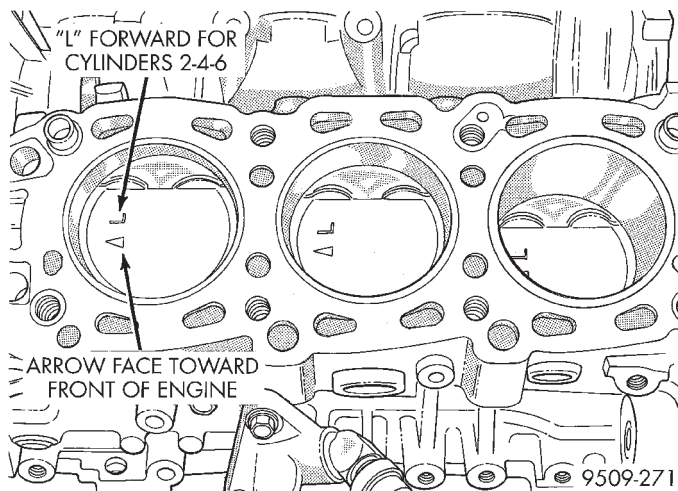

Fig. 78 Mark Pistons
(1) Identify pistons with matching cylinder. **The pistons are not interchangeable from bank to bank** (Fig. 78). Pistons with the letter R and arrow toward the front of engine are to be installed in cylinders 1-3- 5. Pistons with the letter L and arrow toward the front of engine are to be installed in cylinders 2-4-6.